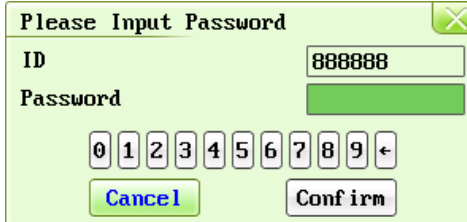

Fig.6-8
- 17) Log on: select the **Log on**, and enter the system login interface, see Fig.6-8. Input the ID and password, and select “Confirm”. Then login the authorized setting interface, you can set the FHR Pane Range, FHR High/Low Limit, Time-to-alarm and change password.